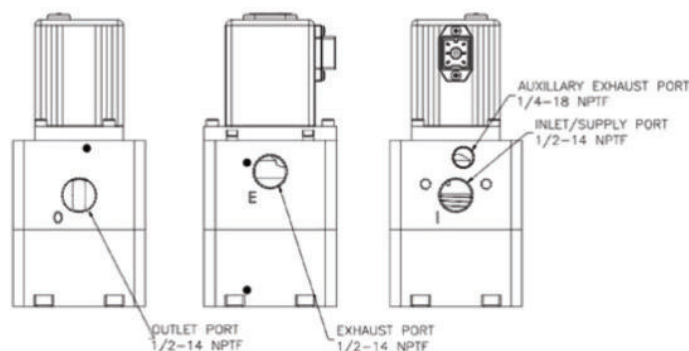

FIGURE 1
3. A 1/4" plug is supplied with the valve. It can be used to plug the "alternate exhaust port" if the exhaust media should be captured or when the valve is used for vacuum or vacuum through positive pressure control. See Figure 1 for port location.
1. Connect supply pressure to the "I" inlet port (Figure 1) not to exceed the rated supply pressure. (See TABLE 1)
2. Connect the outlet "O" port (Figure 1) to the device being controlled.
1. Connect vacuum supply to the "E" exhaust port (Figure 1). The auxiliary exhaust port must be plugged with the 1/4" NPT pipe plug provided to prevent atmospheric air from leaking in to the vacuum supply.
2. Connect supply pressure to the "I" inlet port (figure 1) not to exceed the rated supply pressure. (Table 1). Positive supply pressure is required on vacuum and vacuum through positive pressure QB4 units. (Call Factory with Questions)
3. Connect the outlet "O" port (Figure 1) to the device being controlled.